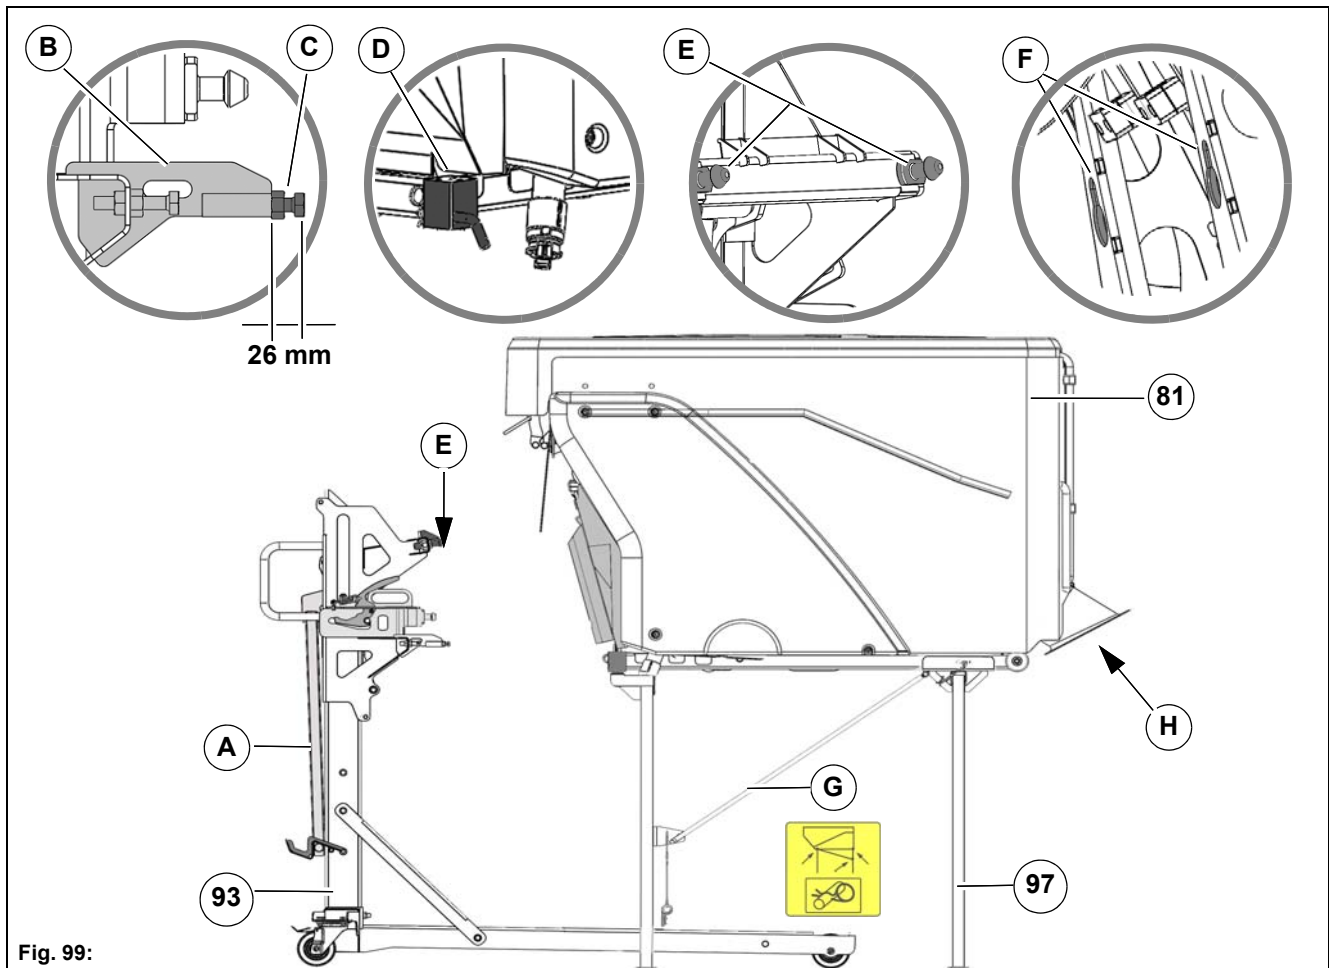

Fig. 99:
Risk of injury due to tilting over! Make sure that the cross strut **Fig. 99-G** has been inserted when transporting the dirt hopper on the supports **Fig. 99-97**. Secure the supports with bolts and splints.
6. Push the trolley with the positioning aid **Fig. 99-B** against the fixed bearings **Fig. 99-D** of the dirt hopper. The screw **Fig. 99-C** must be adjusted to 26 mm!
7. Carefully lower the lever **Fig. 99-A** of the trolley and make sure that the upper locking pins **Fig. 99-E** sit in the holders of the dirt hopper **Fig. 99-F**. Lock the lever **Fig. 99-A**.
Protect the seal of the suction mouth **Fig. 99-H** with a cover plate.